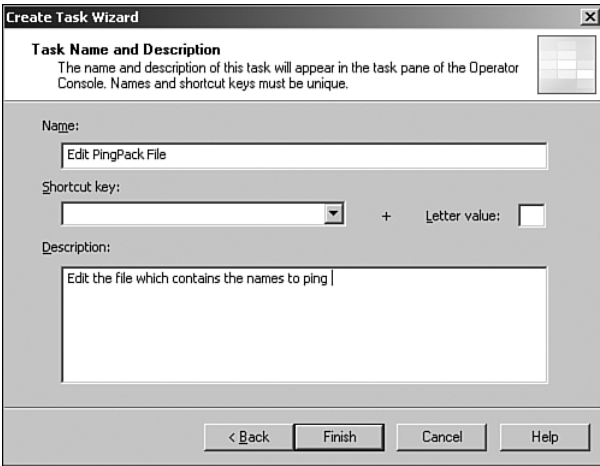

FIGURE 20.30 Configure the name and description for the task.
5. At the Task Name and Description screen (see Figure 20.30), enter a task name of **Edit PingPack File** and a description of **Edit the file which contains the names to ping**. We could also configure a shortcut key to execute this task—but we will not at this time because the task will be used infrequently. Take the defaults for the remainder of the wizard process to complete creating the task.